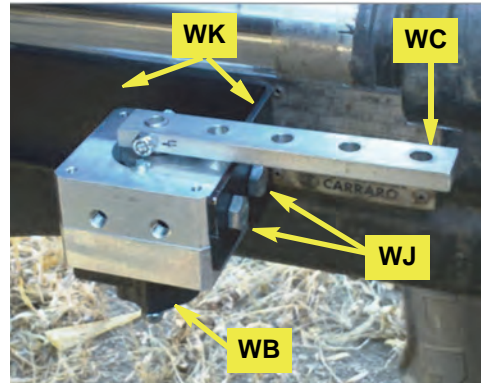

Figure 2b: WAS assembly installed
- b. Using bolts **WJ**, mount the WAS assembly (from steps 1a -1c) on bracket **WK**. Mount the assembly with wire connector **WB** at the bottom and facing inward (toward the machine—and, for ZTX machines, slightly toward the front) and **WC** facing outward (Figure 2b).